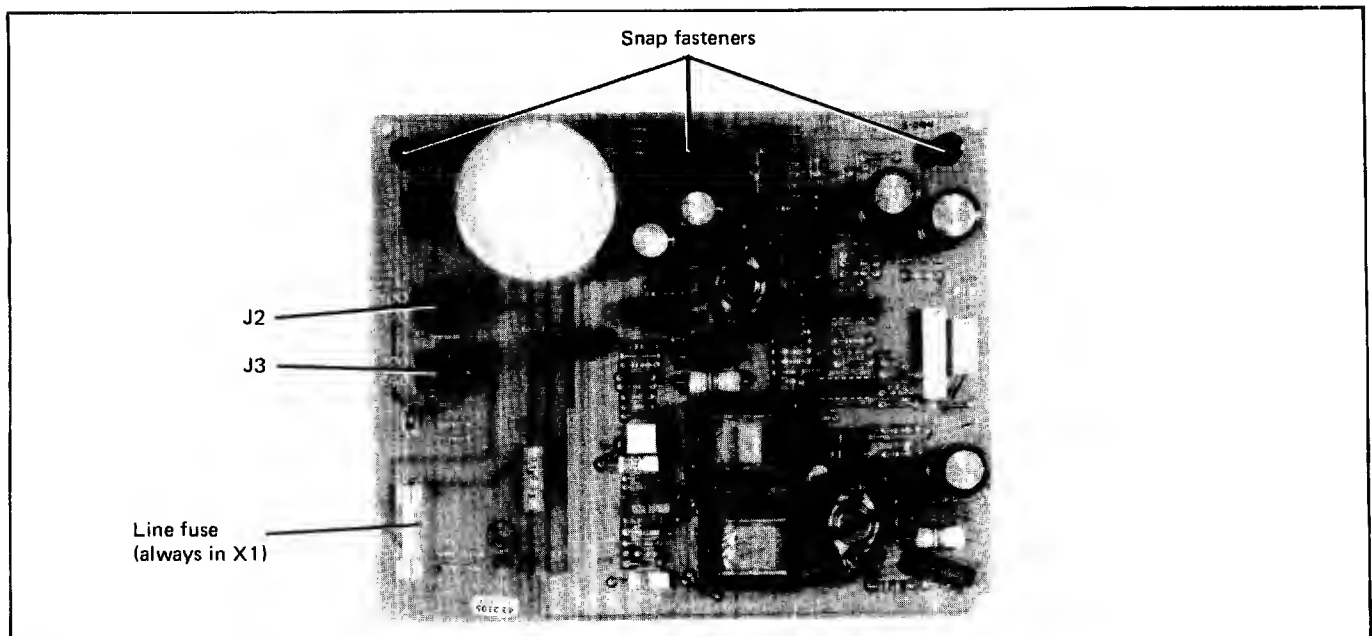

Figure 7-7 2621B Power Supply
2. At top of the Power Supply PCA, pull outwardly on each of the three snap fasteners securing PCA to mainframe (see figure 7-7).